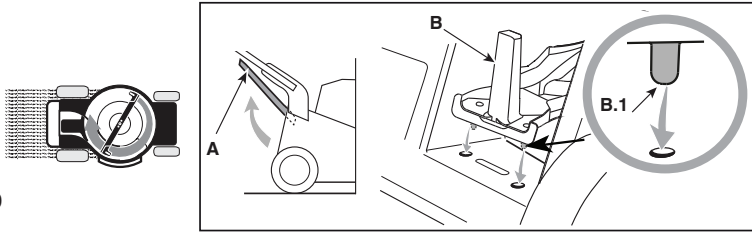

Figure 10
c. Preparation for grass mowing and mulching (Figure 10)
Lift the rear discharge guard (Fig.10.A) and fit the chute cap (Fig.10.B) in the discharge opening, keeping it slightly tilted to the right. Fasten it by fitting the two pins (Fig.10.B.1) into the holes provided until clicks into place.